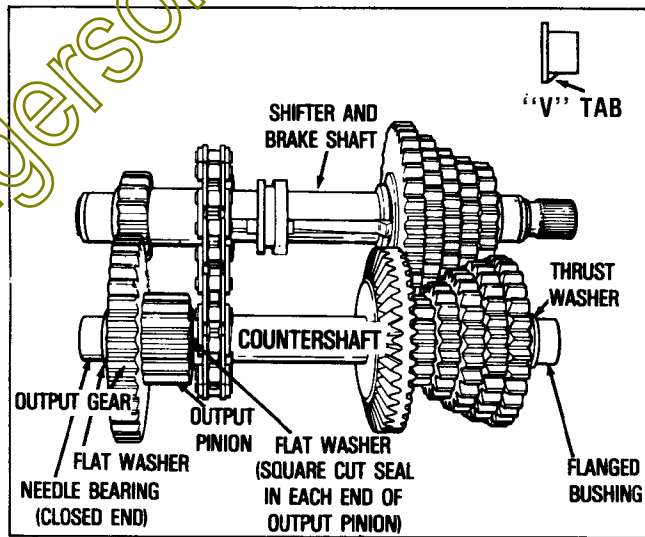

FIGURE 16
- Install the following on the sprocket end of countershaft: flat washer, output pinion (with needle bearings and square cut seals installed -See Figure 16), output gear, flat washer and closed end needle bearing (with square cut seal installed).